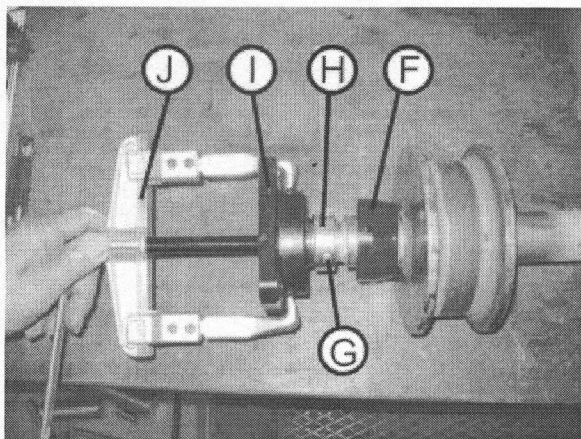

Fig. 011
8. Push away cover (F) from flange bearing (I) (Fig. 011).
9. Loosen safety screw (G) and open clamping ring (H) (Fig. 011)
10. Extract flange bearing (I) with extractor (J) (Fig. 011).
8. Push away covers (R) from flange bearings (S) (Fig. 011).